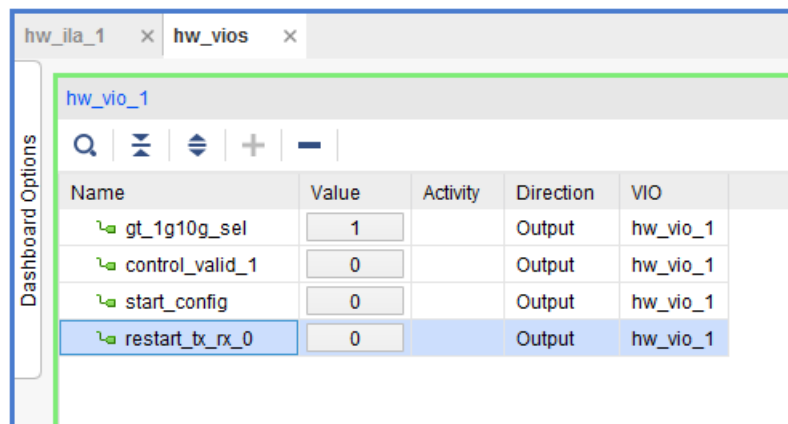

Figure 17: 1G - VIO Window
1. Add all available signals in the VIO window using the + symbol and configure as a toggle button as shown in Figure 17.